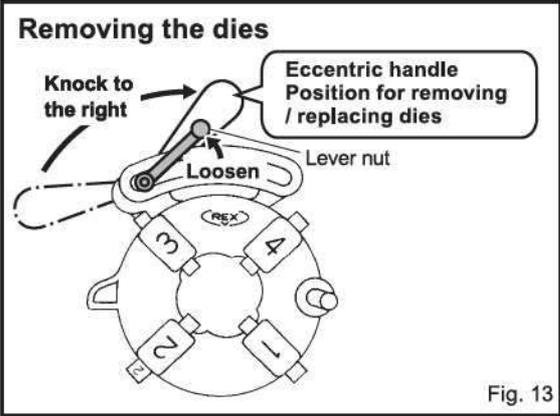

Fig. 13
- (1) Knock the eccentric handle to the right, loosen the lever nut and push the eccentric handle over to the far left. (Fig. 13) In this position, dies No. 3 and No. 4 can then be removed.
- (2) Raise the die head and you can remove dies No. 1 and No. 2.